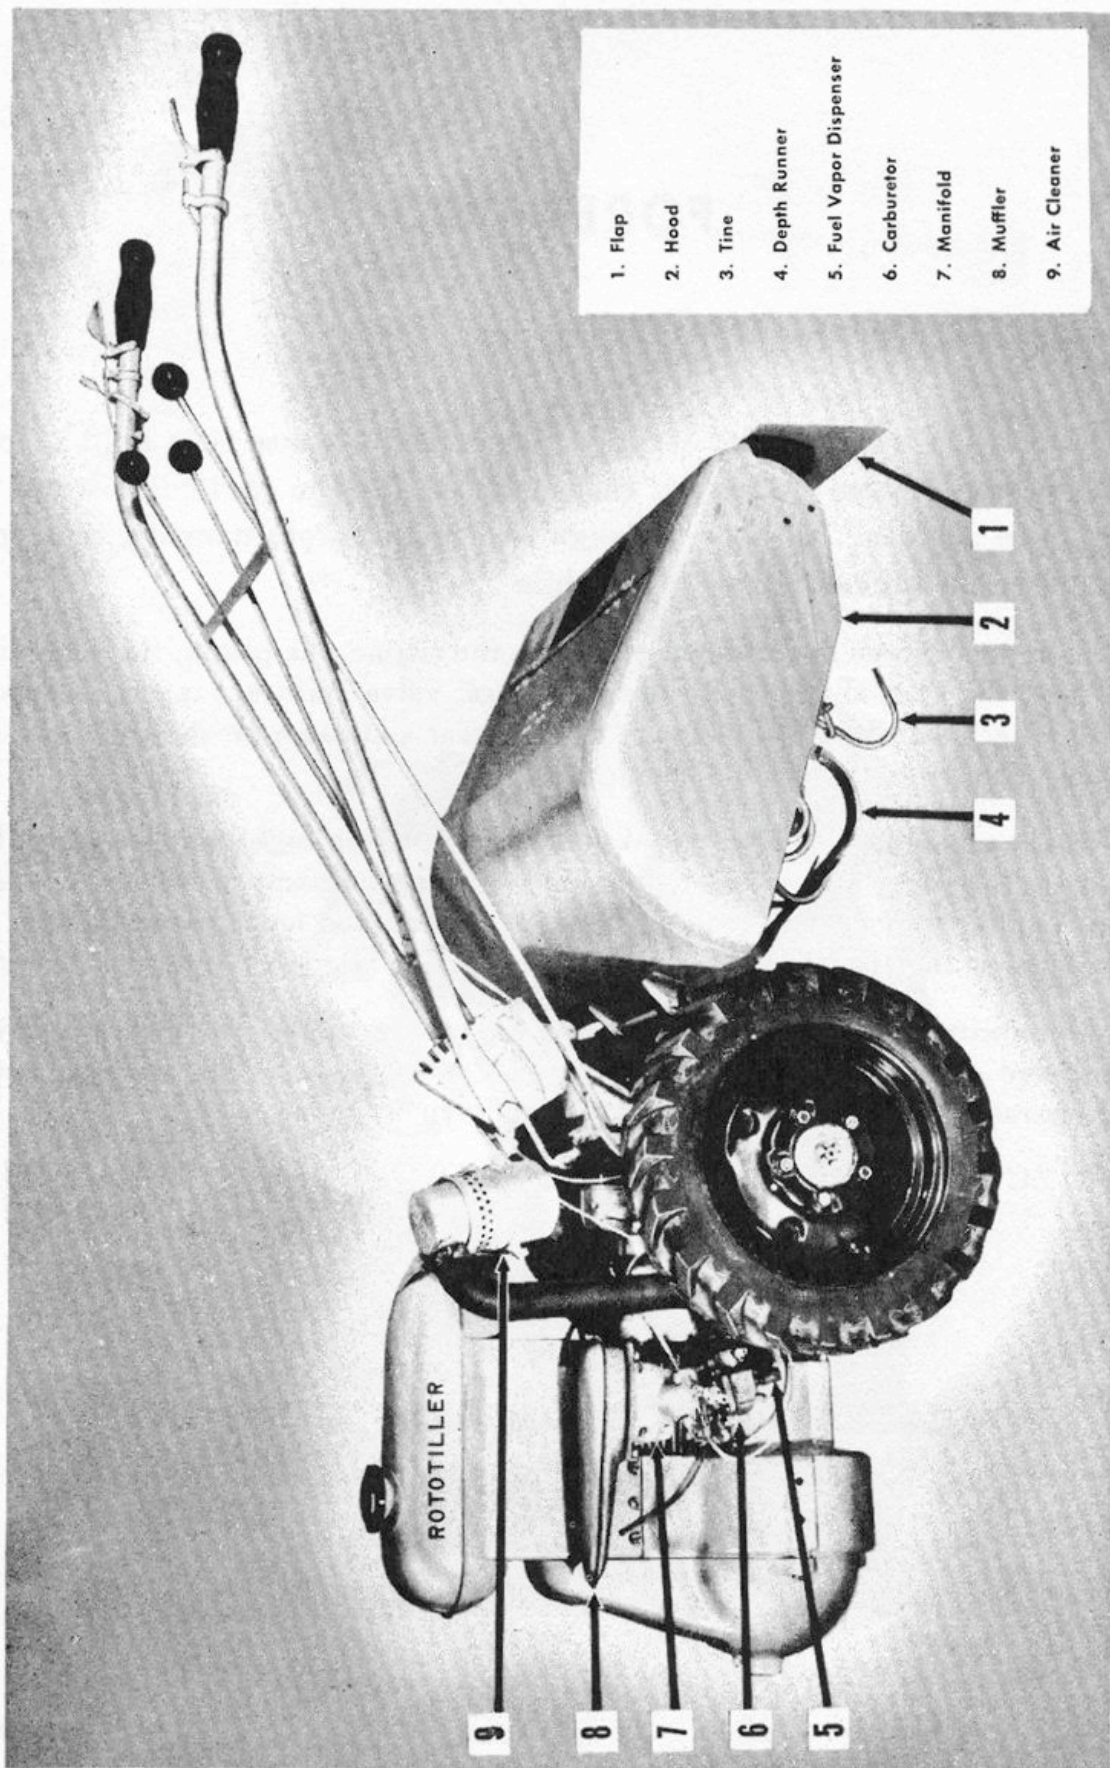

Figure 1. Model B1-7—View of Left Side
MODEL B1-7.—This model consists of the standard Rototiller Power Tiller as shown in figures 1, 2, and 3. Cleated steel wheels are optional.
3. Should the engine fail to start, push choke button "in" about half-way and continue cranking. It is seldom necessary to use the choke when the engine is thoroughly warm. The fuel vapor dispenser on the carburetor (see figure 1) collects the unburned vapors when the engine is stopped and prevents flooding. In addition, it facilitates starting a warm engine. A few drops of gasoline dripping from the dispenser after engine is stopped, is natural and does not indicate a leak.